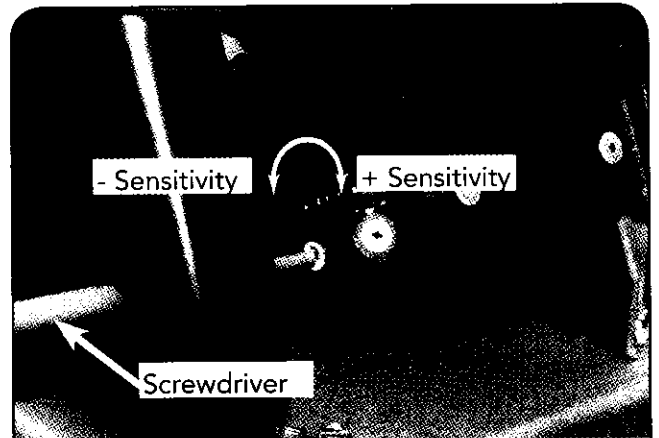

FIGURE 3 - ADJUSTING SENSITIVITY
7. **Adjusting Sensitivity** - The sensor is adjusted at the factory to turn on when hands are 4-6 inches away from the bottom of the dryer. To INCREASE SENSITIVITY turn the pot CLOCKWISE up to 1/3 TURN MAX. To DECREASE SENSITIVITY turn the pot COUNTERCLOCKWISE up to 1/3 TURN MAX. See Figure 3.
8. **Carefully** replace the cover using (2) tamper-proof screws supplied. Apply a bead of caulk around edges of cover to wall.
Check electrical service, circuit breaker. Make sure proper voltage is being supplied to the dryer. Check for loose or disconnected terminals to sensor. INCREASE sensitivity (FIGURE 3) by inserting a flat-blade screwdriver through the hole and into the pot to CAREFULLY turn the adjustment pot located on the sensor CLOCKWISE 1/3 turn MAX. If necessary, replace sensor.
Make certain black foam is attached to lens and lens is clean. If damaged, replace. DECREASE sensitivity (FIGURE 3) by inserting a flat-blade screwdriver through the hole and into the pot to CAREFULLY turn the adjustment pot located on the sensor COUNTER-CLOCKWISE, 1/3 turn MAX. If necessary, replace sensor.